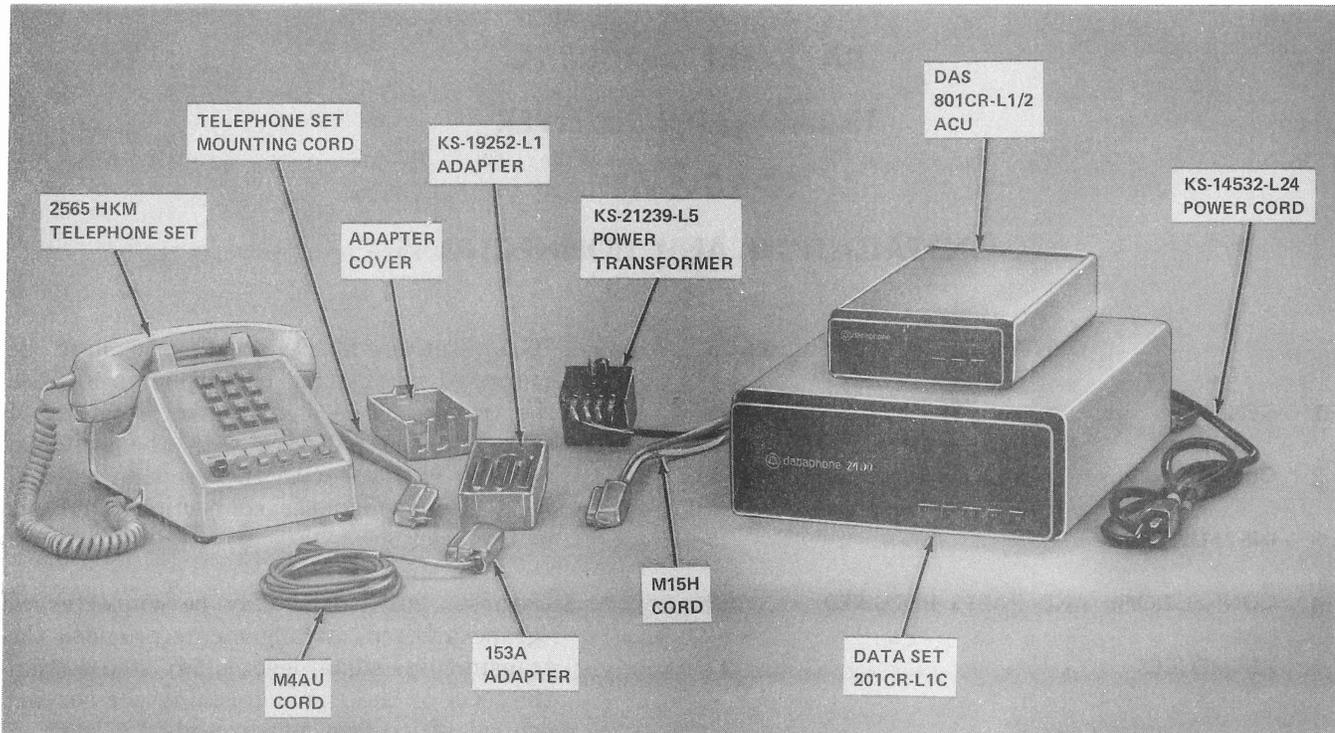

Fig. 1—Data Set 201CR-L1C With ACU and Telephone Set—Station Components
1.01 This section contains the installation and connection information for data set (DS) 201CR-L1C. Data set 201CR-L1C should be installed in conformance with the general instructions contained in Section 590-010-200. Data set 201CR-L1C is the registered version of DS 201C-L1C and meets all requirements of the FCC Registration Program. The registration number for DS 201CR-L1C is AS593M-70105-DM-E. Station components for a registered arrangement of DS 201CR-L1C with an automatic calling unit (ACU) and a telephone set are shown in Fig. 1.